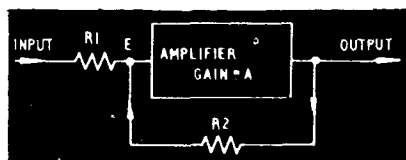

Fig. 5. See-saw amplifier
12. Considering any one channel by itself, the circuit is seen to be a three-valve form of the so-called *see-saw amplifier*, shown diagrammatically in fig. 5. Here R1 is the input resistance, and R2 the feedback resistance. Provided that the amplifier has appreciable gain A, and phase-inverts the signal, the overall gain of such a system is nearly R2 divided by R1. The point E remains near earth potential, and is known as a virtual earth; the potentials at the ends of the resistive arms R1 and R2 may be said to see-saw about the point E. Such a circuit greatly improves overall DC stability as well as frequency response, and has a low output impedance; it is sometimes referred to as the "anode-follower".